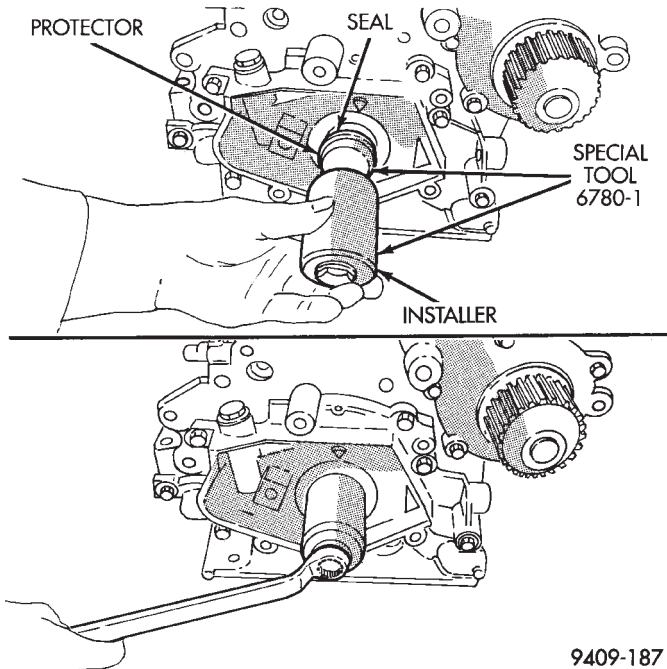

Fig. 85 Front Crankshaft Seal—Installation
(5) Torque all oil pump attaching bolts to 28 N·m (250 in. lbs.).
(6) Install new front crankshaft seal using Special Tool 6780 (Fig. 85).